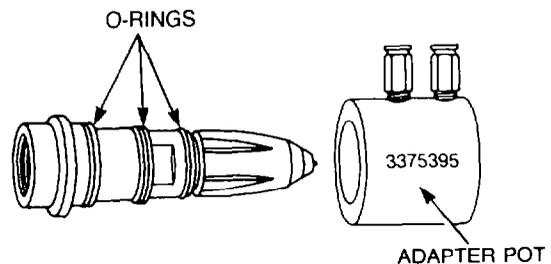

Figure 108 — Injector and Adapter Pot
- a. Install three new O-rings on the injector adapter and lubricate the O-rings with clean calibration fluid, then install the injector into the adapter pot 3375395 (see Fig. 108).